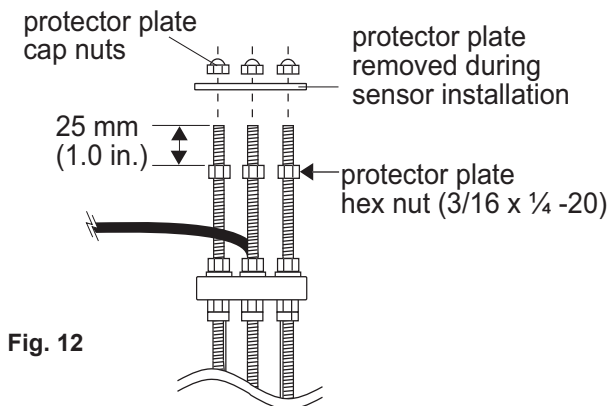

Fig. 12
- F. Thread protector plate hex nuts onto each of the three threaded rods. Adjust each hex nut to a height of approximately 25 mm (1 in.) from the top of each rod. (Fig. 12)